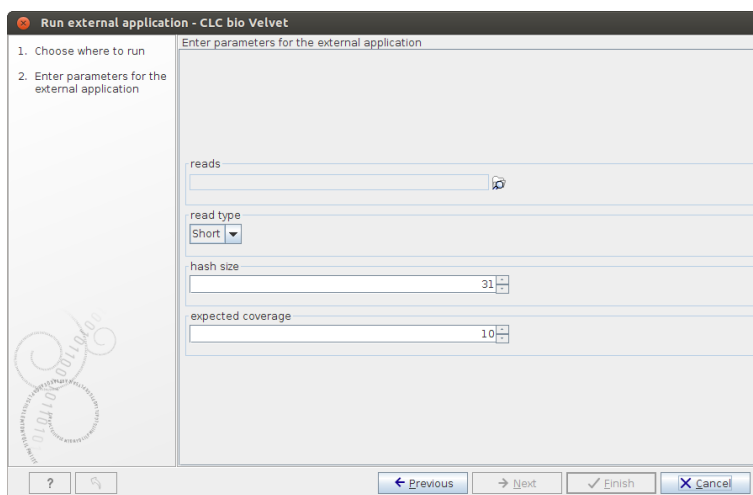

Figure 16.26: Configuring Velvet parameters from a Workbench.
- Select (📁) the reads to assemble and configure the Velvet parameters, as shown in figure 16.26.